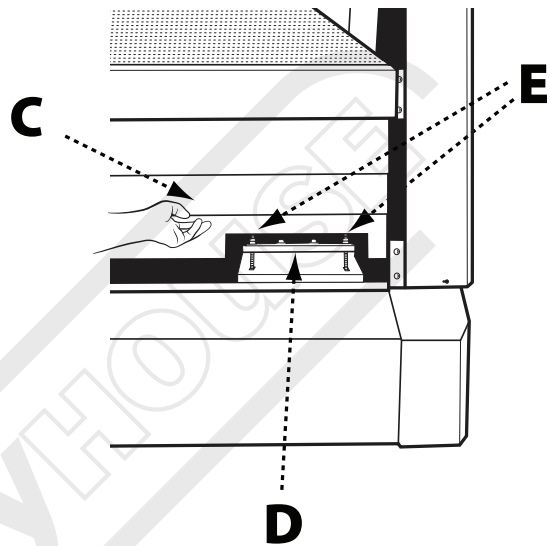

FIG. 7
3. Use a 6mm Allen wrench to remove the four hex cap bolts and washers securing the bottom guard (B) to the machine. See Fig. 7.
4. Raise the telescoping panels (C) high enough to expose the motor mount (D). See Fig. 7. Prop up using a scrap block of wood.
5. Locate the two M12 nuts (E) that raise and lower the motor. See Fig. 7.